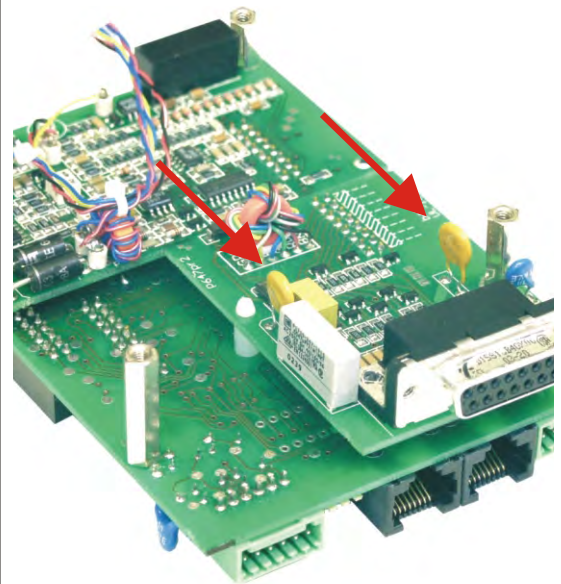

fig. 4 - 1
- Check fuse F27_2 in series with Ø (pin 8 of CON E) (see fig. 4 - 1). To check the fuse measure the voltage between Ø and the minus output, a high voltage means too much current flowing through the fuse. F27_2 = 650 mA, self resetting.